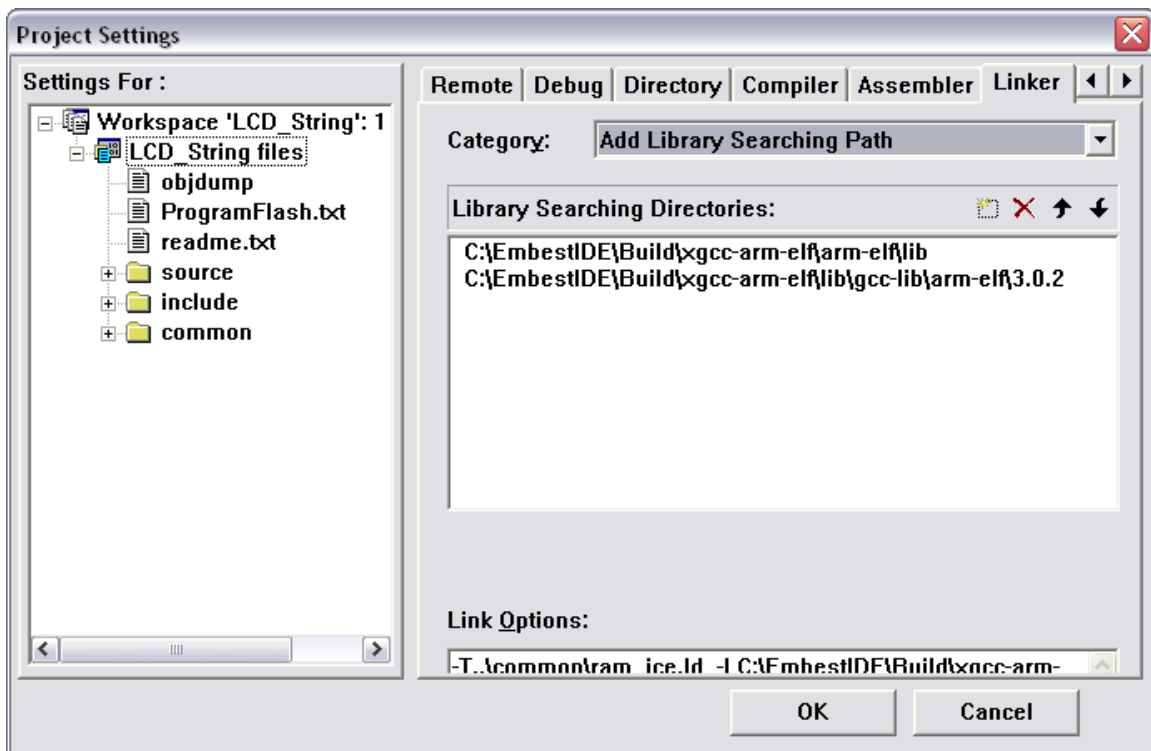

Fig 1-4. Linker setting
1. Check the project setting. Go to Project->Settings, open the Linker tab, then select the “Add library Searching Path”, change the directory as shown in Fig 1-4. Take care that the c:\EmbestIDE is the folder where you installed the software, if you install in some other directory, change it to your directory.